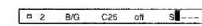

Fig. 23
- Select a letter or number with  $\Delta$  or  $\nabla$  and press OK. The next element will be highlighted. Select other characters in the same way. If you want to leave an element blank, select - and press OK. (See Fig. 23.)